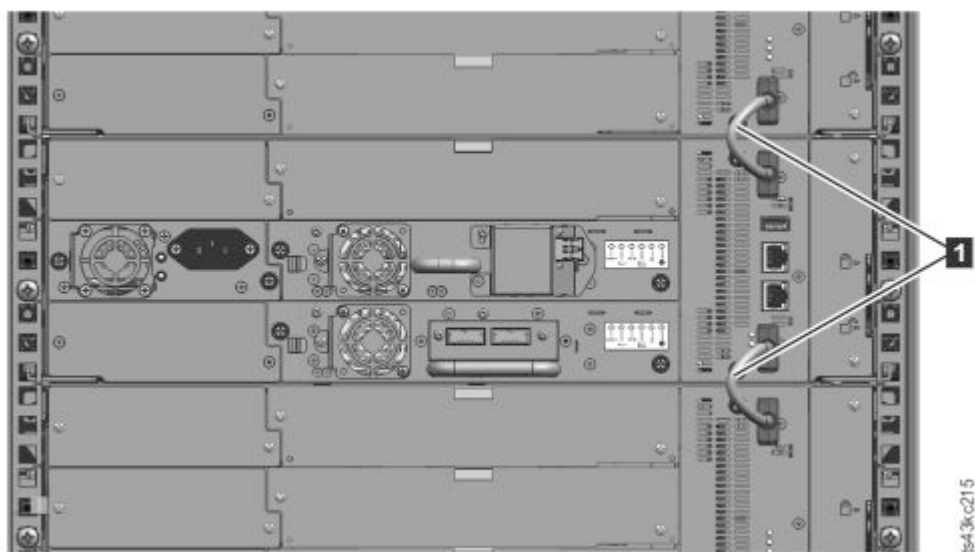

Figure 48. Connected modules
5. From the back of the library, connect the modules of each pair to its adjacent module by using the expansion interconnect cables (**1**) as shown in Figure 48 on page 49.